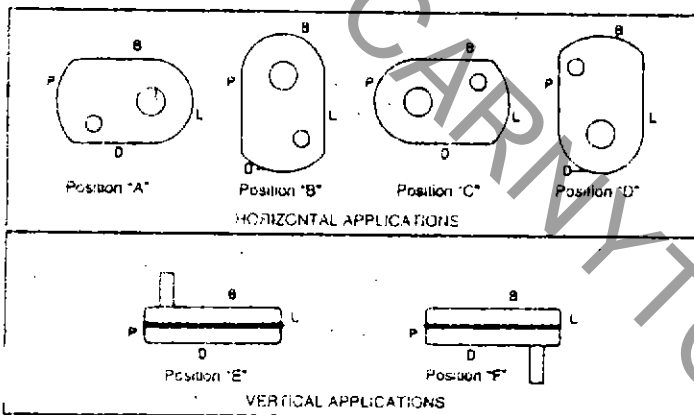

Fig. 1 — Mounting Positions
2. Determine the running positions of the reducer. (See Fig. 1) Note that the reducer is supplied with either 4 or 7 plugs; 4 around the sides for horizontal installations and 1 on each face for vertical installations. These plugs must be arranged relative to the running positions as follows:
The running position of the reducer in a horizontal application is not limited to the four positions shown in Figure 1. However, if running position is over 20° either way from sketches, the oil level plug cannot be safely used to check the oil level, unless during the checking the torque arm is disconnected and the reducer is swung to within 20° in position "B" and "D" or 5° in position "A" and "C" of the positions shown in Figure 1. Because of the many possible positions of the reducer, it may be necessary or desirable to make special adaptations using the lubrication fitting holes furnished along with other standard pipe fittings, stand pipes and oil level gages as required.
† Refer to Fig. 1 on page 2 for mounting positions.
Note: If reducer position is to vary from those shown in Figure 1 either more or less oil may be required. Consult factory.